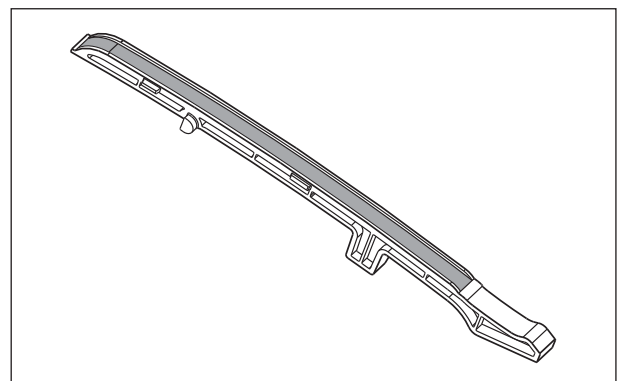

Fig. 3.84
- Inspect the guide cam chain for any distortion / damage, cuts or crack. If found any, replace the guide with new one. (Fig. 3.84)